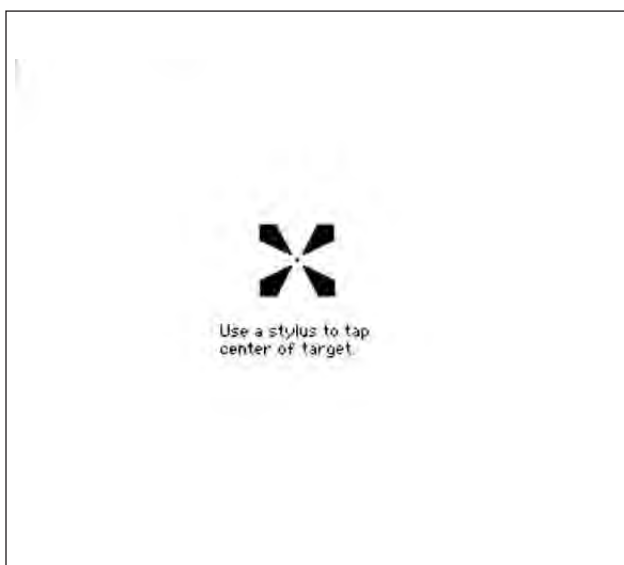

Fig. 9.3. Touch screen calibration screen.
3. Use the stylus to tap the center of five consecutive screen targets (Figure 9.3). When you touch the center of the last confirmation target in the center of the screen, the system returns to the Home screen.